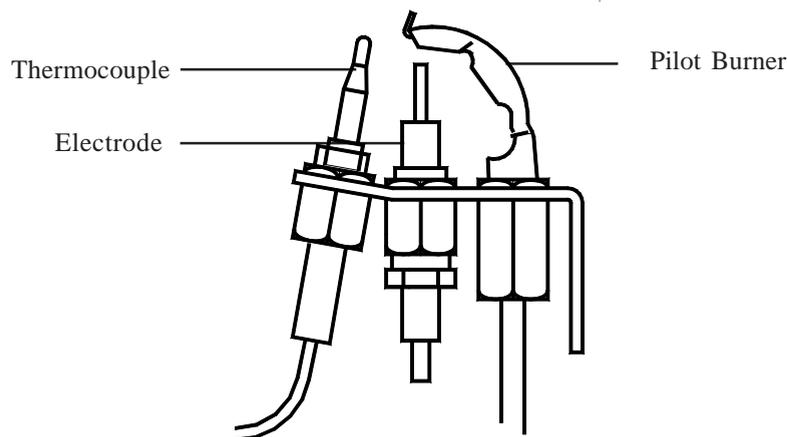

Fig. 3
- 6.3.6 Ensure that the pilot flame envelops thermocouple tip, adjusting Multifunctional control valve Pilot Adjuster as required (refer Fig. 3).